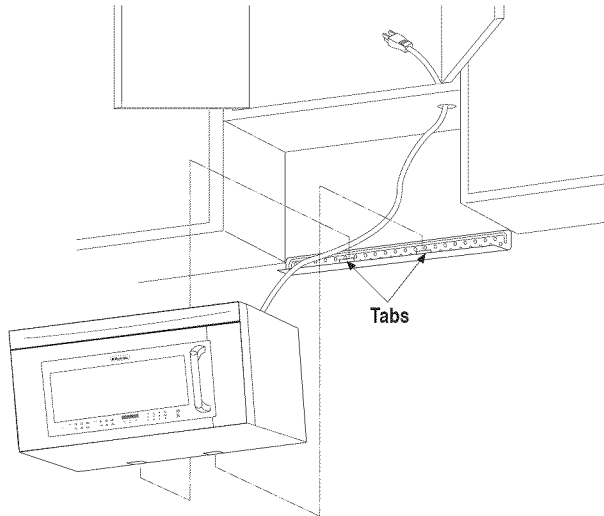

Figure 18
- Install the oven by tilting it forward and sliding it onto two tabs of the Mounting Plate. Rotate the oven up so it rests against the wall. See Figure 18 on page 7.